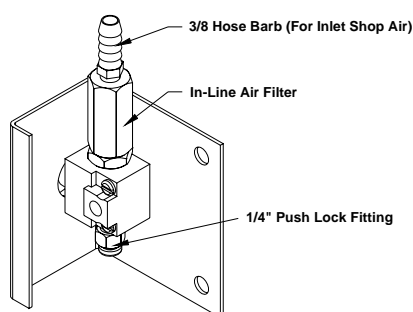

Fig. 8
19. Connect shop air supply to factory assembled air valve. **DO NOT** bypass factory supplied in-line filter. Push 1/4" airline through the PVC chase beginning at the power unit. Connect the airline to the appropriate push lock fittings at each end. Refer to Figure 8.